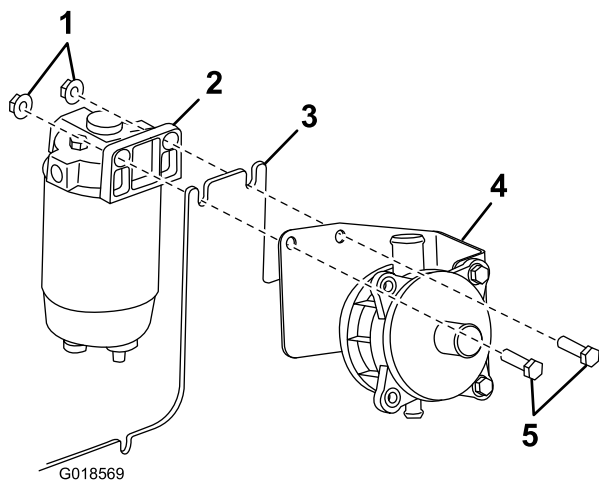

Figure 3
2. Install the new breather bracket and breather (and the existing oil-water separator) onto the machine frame (where the old breather bracket was mounted) with the 2 existing bolts and 2 existing nuts that you previously removed; refer to Figure 3.